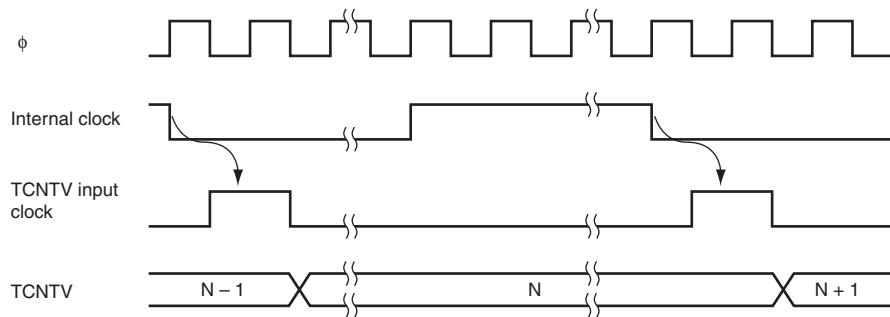
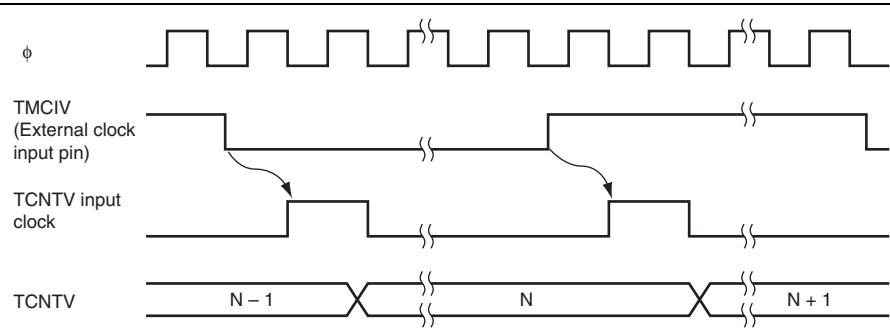

Figure 11.2 Increment Timing with Internal Clock
Figure 11.3 Increment Timing with External Clock
1. According to table 11.2, six internal/external clock signals output by prescaler S can be selected as the timer V operating clock signals. When the operating clock signal is selected, TCNTV starts counting-up. Figure 11.2 shows the count timing with an internal clock signal selected, and figure 11.3 shows the count timing with both edges of an external clock signal selected.
4. Depending on the timing, TCNTV may be incremented by a switch between different internal clock sources. When TCNTV is internally clocked, an increment pulse is generated from the falling edge of an internal clock signal, that is divided system clock ( $\phi$ ). Therefore, as shown in figure 11.3 the switch is from a high clock signal to a low clock signal, the switchover is seen as a falling edge, causing TCNTV to increment. TCNTV can also be incremented by a switch between internal and external clocks.